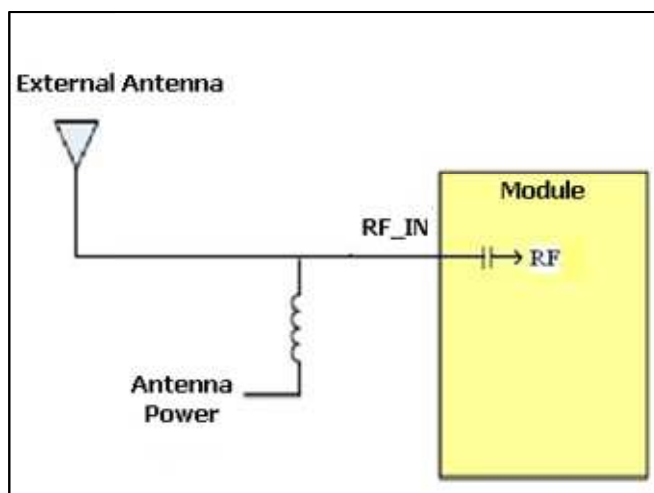

Figure Mode 2 (External chock coil)
- Mode2 (**ex. Gmm-r1**), the power supply needs to be externally provided and is connected directly to the External Antenna via chock coil. See Figure Mode 2.